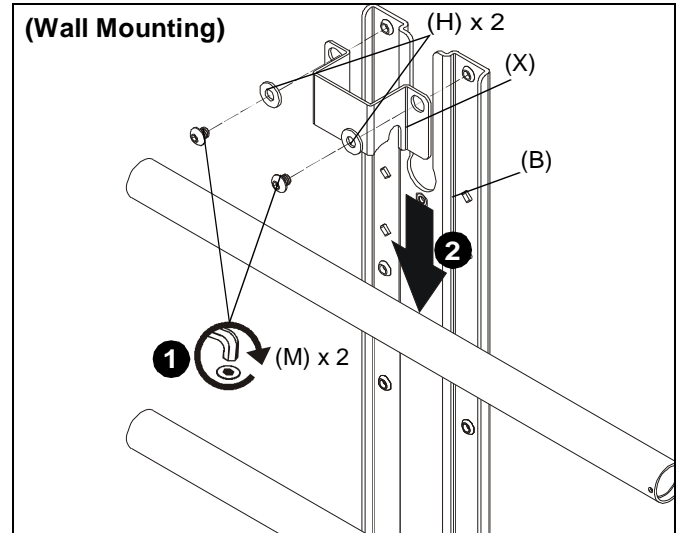

Figure 3
**IMPORTANT !** : Refer to Figure 3 if installing to a wall mount or Figure 4 if installing to a cart/ceiling mount.
1. Use two 1/4-20 x 1/4" button head cap screws (M) and two large washers (H) to secure shelf bracket (X) to main bracket (B). (See Figure 3)
2. Slide main bracket (B) behind wall mount rails until shelf bracket (X) rests on top of wall mount rail. (See Figure 3)